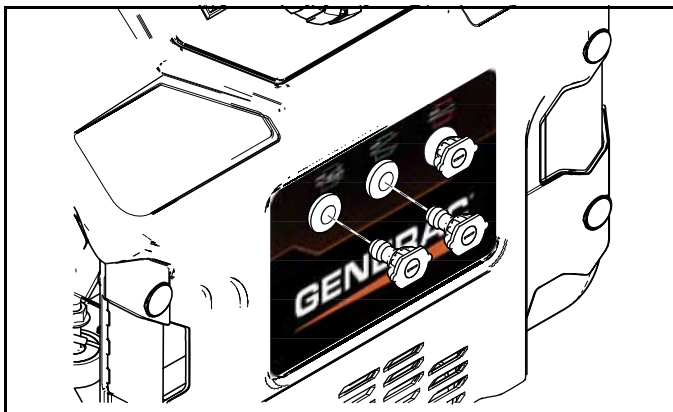

Figure 4-5. Insert Nozzles
5. Insert color-colored nozzles in spaces provided in front panel (Figure 4-5).